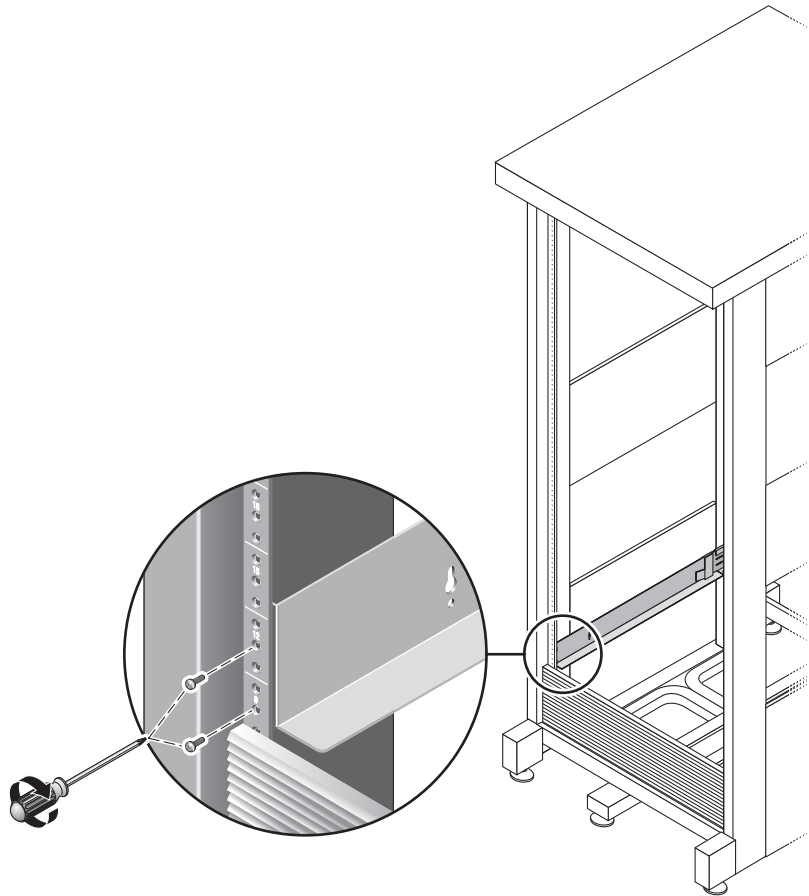

FIGURE 2-9 Securing the Left Rail to the Front of the Cabinet
- Using the No. 2 Phillips screwdriver, insert and tighten two 8-32 screws to secure the left rail to the front of the cabinet (FIGURE 2-9). Repeat for the right rail.